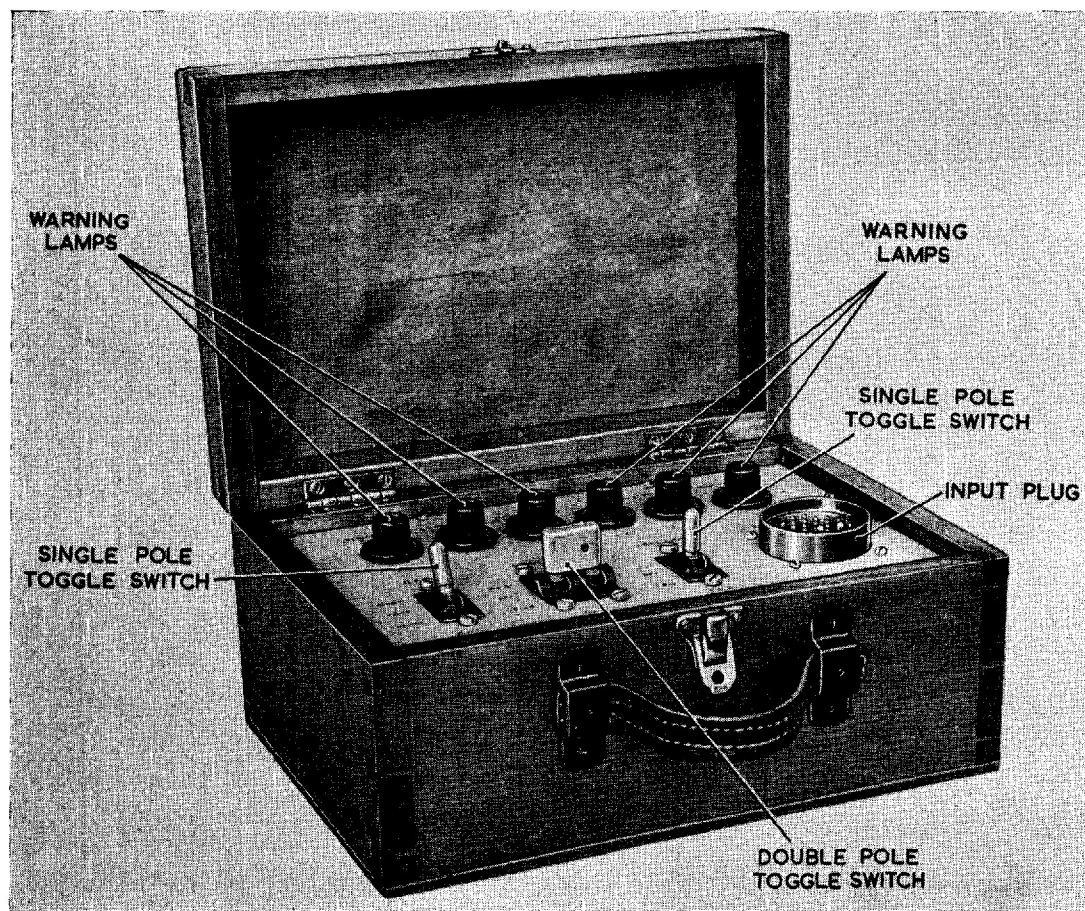
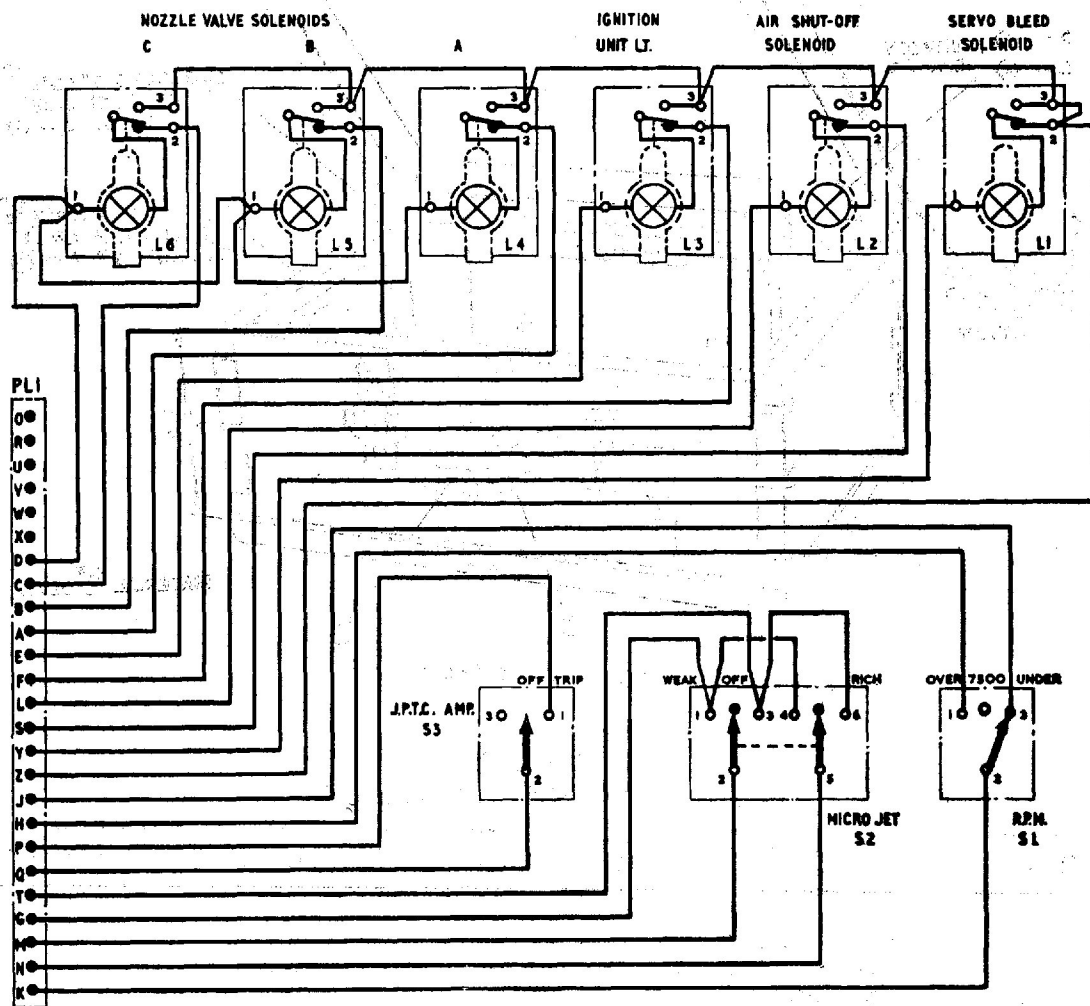
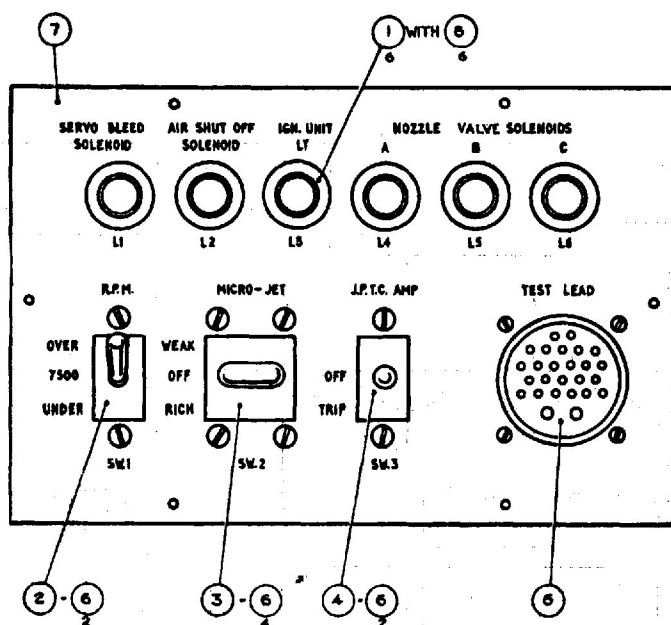

Fig. 1. Test set
Fig. 3. Wiring Diagram of Test Set
Fig. 4. Front panel assembly
3. The test set (*fig. 1*) consists of a front panel assembly fitted in a wooden case, a test lead and a fabric case in which the test lead is stowed. The front panel (*fig. 4*), which is of light alloy, is fitted with six warning lamps, three toggle-type switches and a 26 pole plug, and is secured to battens in the wooden case by six wood screws. The wiring diagram for the front panel is shown in *fig. 3*.
Material required for front panel assembly (fig. 4)
(2) Finish the upper surface using duck-blue paint.
(3) Fit the warning lamps and breeze socket.
(4) Fit the single and double pole switches.
(5) Connect the components of the panel in accordance with the wiring diagram (fig. 3), using unipren 6 cable.
(6) Fit the assembled front panel into the test set case.